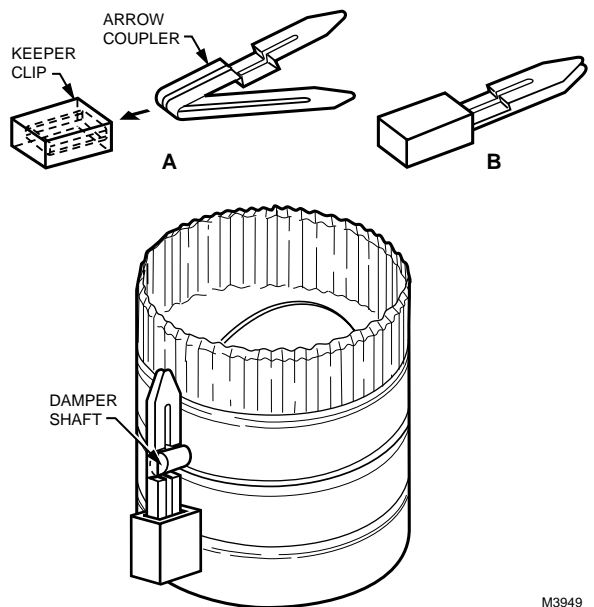

Fig. 1. Installing arrow coupler on damper shaft using keeper clip.
3. Locate the arrow coupler and keeper clip (see Fig. 1).
4. Slip keeper clip over arrow coupler as shown in Fig. 1. This compresses the arrow coupler.